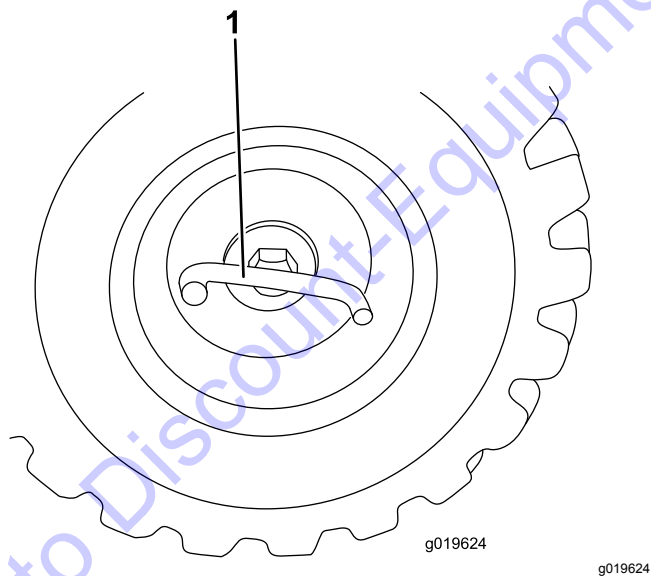

Figure 13
2. Remove the large tee bolt in the center of the wheel with a crow bar (Figure 13).